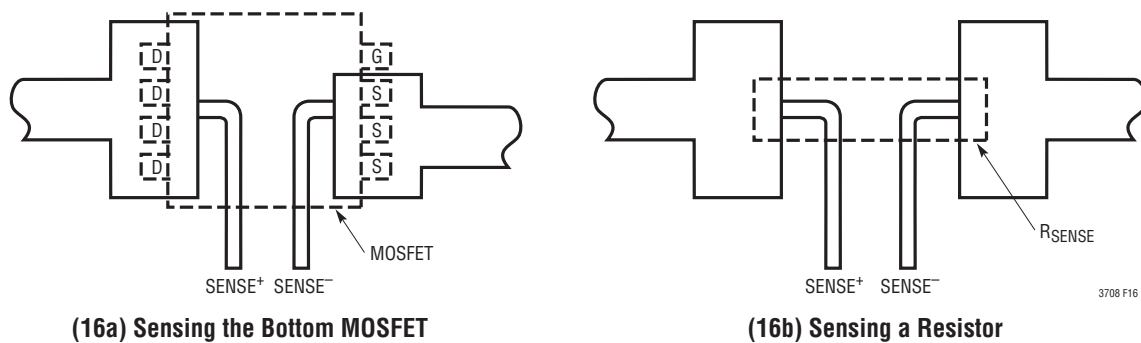

Figure 16. Kelvin Sensing
- Run  $SENSE^+$  and  $SENSE^-$  across the bottom MOSFET (or  $R_{SENSE}$  when a separate current sensing resistor is used) with Kelvin connection (Figure 16). Route  $SENSE^+$  and  $SENSE^-$  together with minimum PC trace separation. The filter capacitor (when used) between  $SENSE^+$  and  $SENSE^-$  should be as close to the LTC3708 as possible.